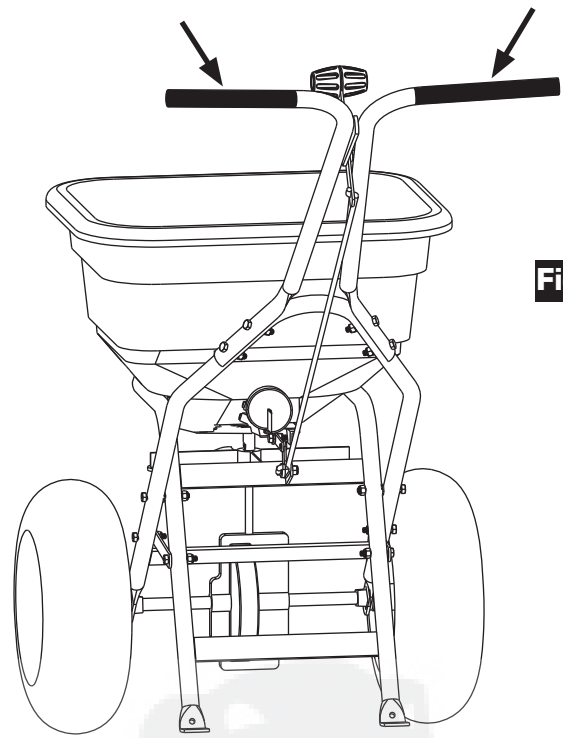

Figure 11
11. Install Handle Grips on Handle of Spreader as shown in Figure 11.